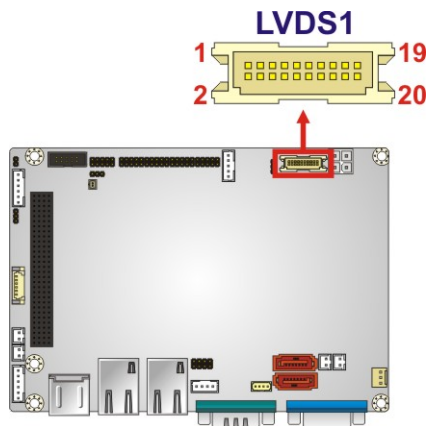

Figure 3-9: LVDS Connector Location
- CN Location:** See **Figure 3-9**